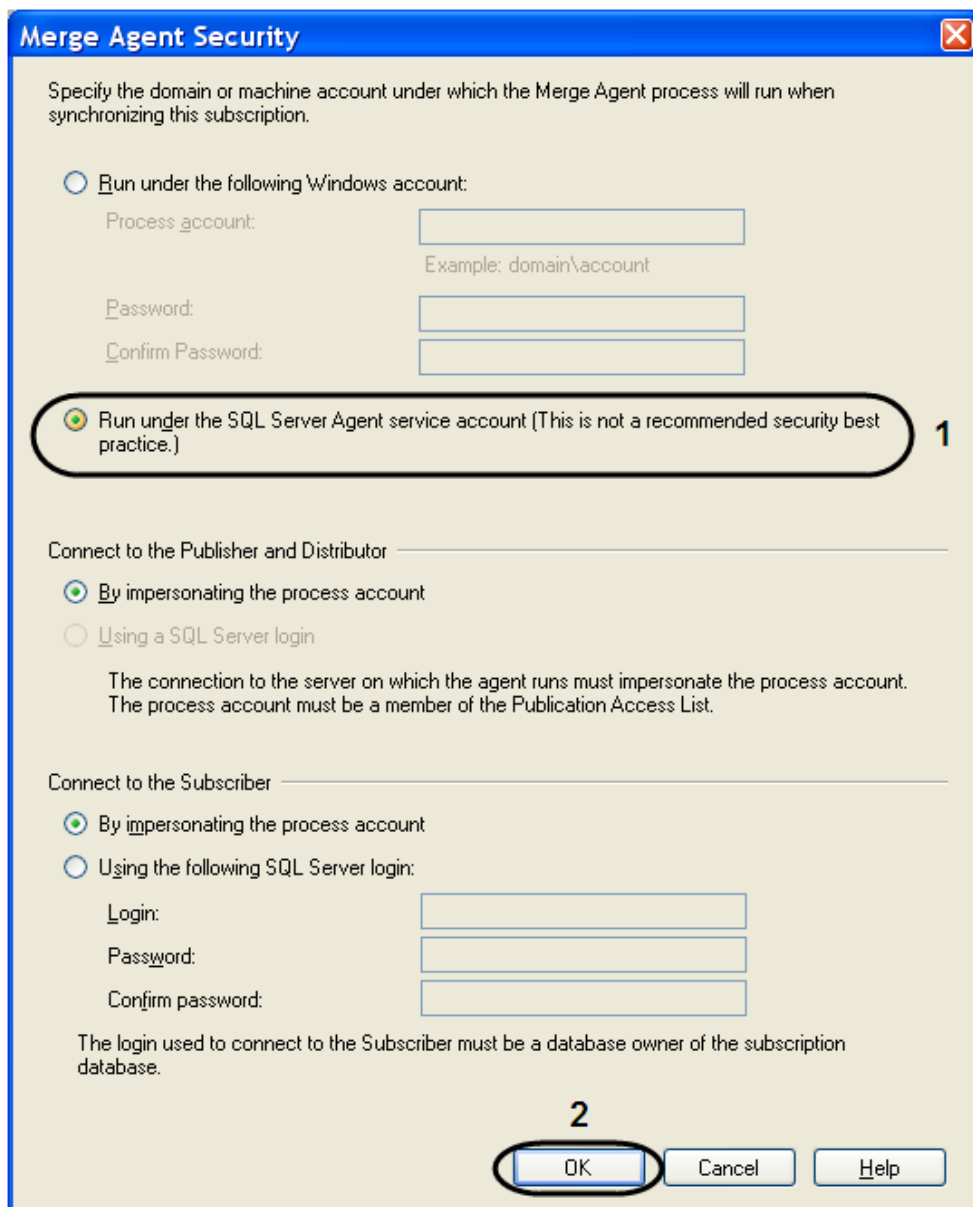

Fig. 9.3-17 «Merge Agent Security» window
14. «Merge Agent Security» window will open (Fig. 9.3-17).
- 14.1. Set the switch to the position «Run under SQL Server Agent service account (This is not recommended security best practice) » (Fig. 9.3-17, 1).
- 14.2. Click Ok to save the changes (Fig. 9.3-17, 2).